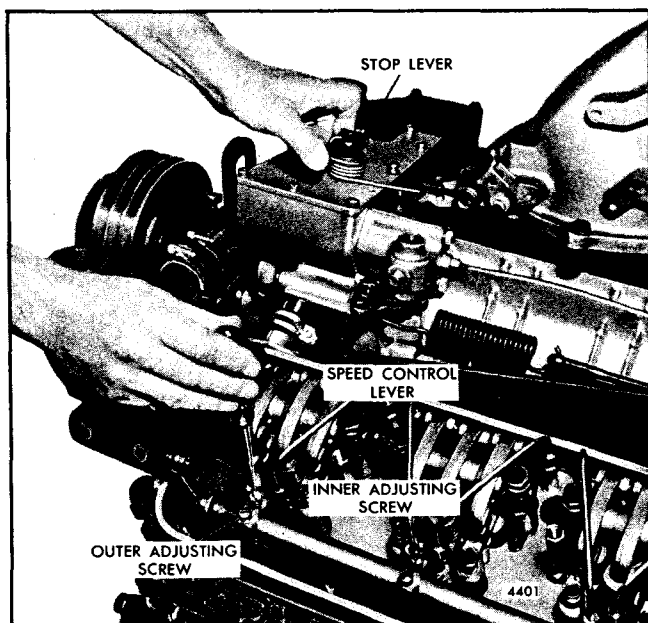

Fig. 2 - Positioning No. 1 Injector Rack Control Lever
4. Move the governor stop lever to the "run" position and hold it in that position with light finger pressure. Turn the inner adjusting screw of the No. 1L injector rack control lever down until a slight movement in the governor stop lever is noted. Turn down the outer adjusting screw until it bottoms lightly on the injector control tube. Then alternately tighten both the inner and outer adjusting screws (Fig. 2).